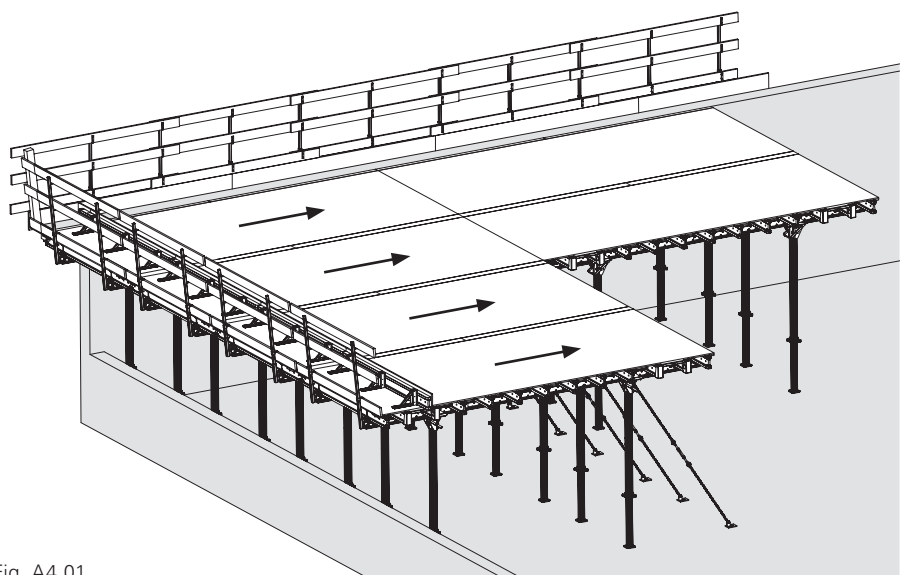

Fig. A4.01
3. Position additional slab tables until the slab area is shuttered. (Fig. A4.01)